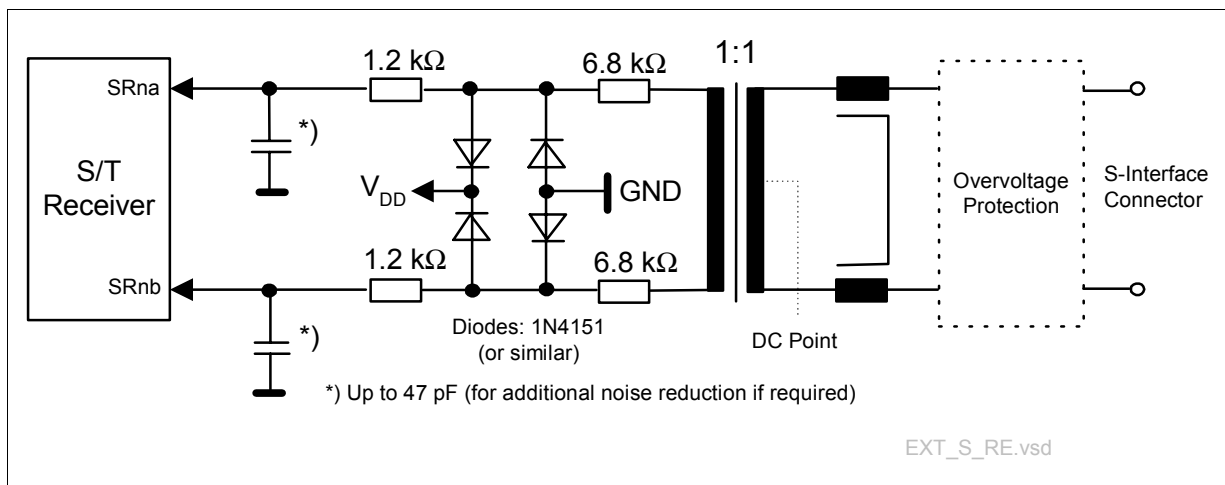

Figure 31 External S/T Receiver Circuitry
**Receiver.** At the receiver, 8 k $\Omega$  overall resistance is needed in each receive path. It is recommended to use two resistors per line, as shown in Figure 31. This makes it possible to place a high resistance between the transformer and the diode protection circuit (required to pass 96-kHz input impedance test of ITU-T I.430). The remaining resistor protects the VIP receiver from input current peaks.